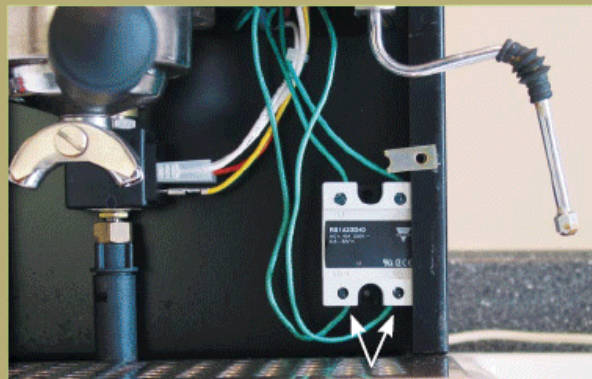

Fig. 4 SSR wiring detail.
- 6d.** Attach the wire marked with tape to the ‘+’ terminal on the SSR. Attach the other wire to the ‘-’ terminal (see Fig. 4).